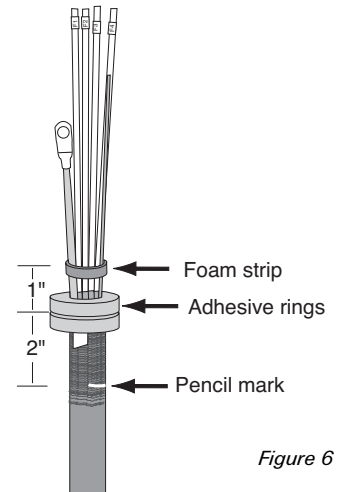

Figure 6
11. Peel the backing off the foam strip. Gather all the transportation tubes together (excluding the bond wire, if present) and make one complete wrap of the foam strip, adhesive side down, 1" from the sheath ring cut. The ends of the transportation tube should extend slightly beneath the foam strip. Wrap the remaining foam strip around the bond wire and transportation tubes. (Figure 6)
12. If the cable is less than .50" in diameter, use 1 adhesive ring. Otherwise, use 2 rings. Wrap the yellow adhesive ring around the buffer tubes (and bond wire, if present) between the sheath ring cut and the foam strip. (Figure 6)
13. Clean 3" of the cable sheath below the ring cut with the provided cleaning tissue. Abrade the cleaned area with the abrasive strip. (Figure 6)